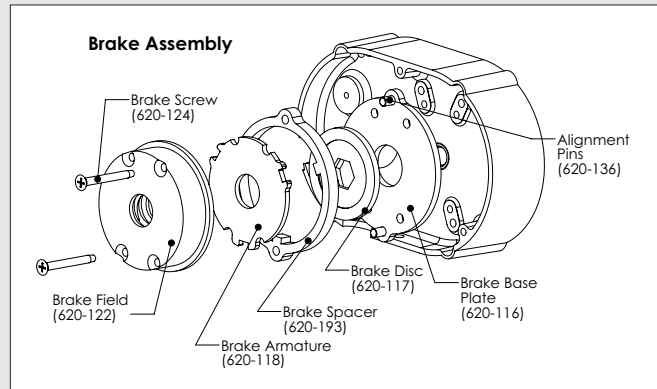

Figure 8B
- Refer to Figure 8B and disassemble the brake. Depress and hold the field assembly (620-122) while removing the four brake screws (620-124). The field assembly is under spring pressure and will spring-out if not held. During disassembly, note there is a small leaf spring (620-121) on the brake driver (620-119) and this will spring-out when the brake disc (620-117) is removed. Examine the base plate (620-116), hex driver (620-119), brake disc (620-117) and armature (620-118) for excessive wear, scoring or warpage. Make sure the brake disc is not glazed, the coil firmly fixed in the field (620-122) and the